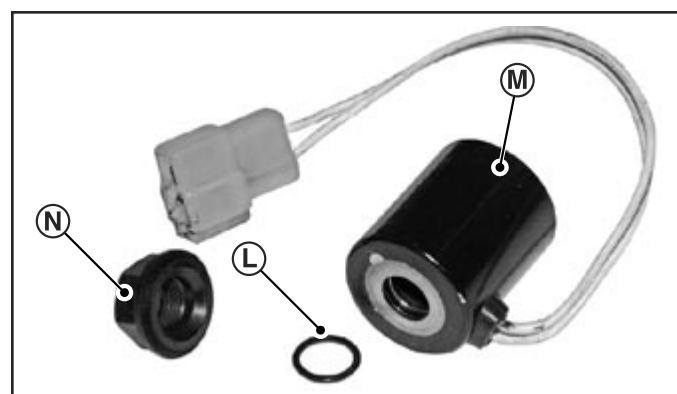

Fig. 10, Solenoid Coil
8. Slide solenoid coil (M) onto solenoid armature. Install O-ring (L) and plastic nut (N) (do not tighten plastic nut at this time.) (Fig. 10)
9. Position solenoid coil wire leads (P) to the right and approximately 45° above horizontal.